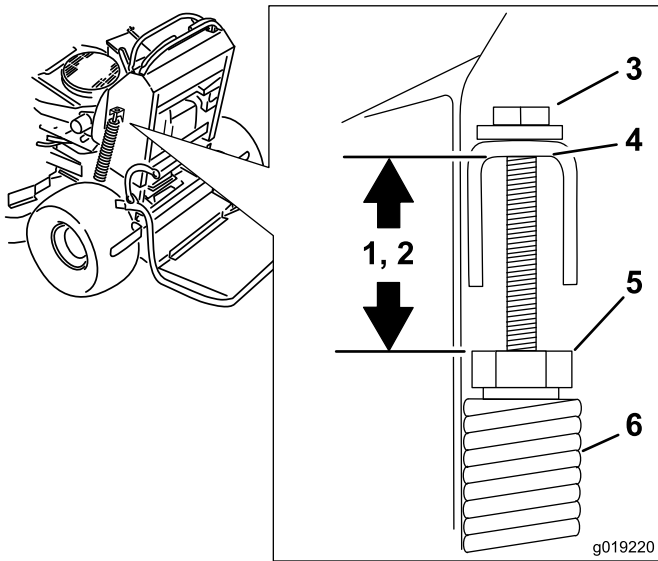

Figure 94
2. Check the length between the spring nut and the bottom of the welded U-bracket (Figure 94). Nominal length is between 1.84 to 1.96 inches (47.0 to 50.0 mm) for 48 and 52 inch mower decks and between 1.69 to 1.81 inches (43.0 to 46.0 cm) for 60 inch mower decks (Figure 94).
- If needed, adjust the distance by adjusting the bolt on top of the U-bracket (Figure 94).